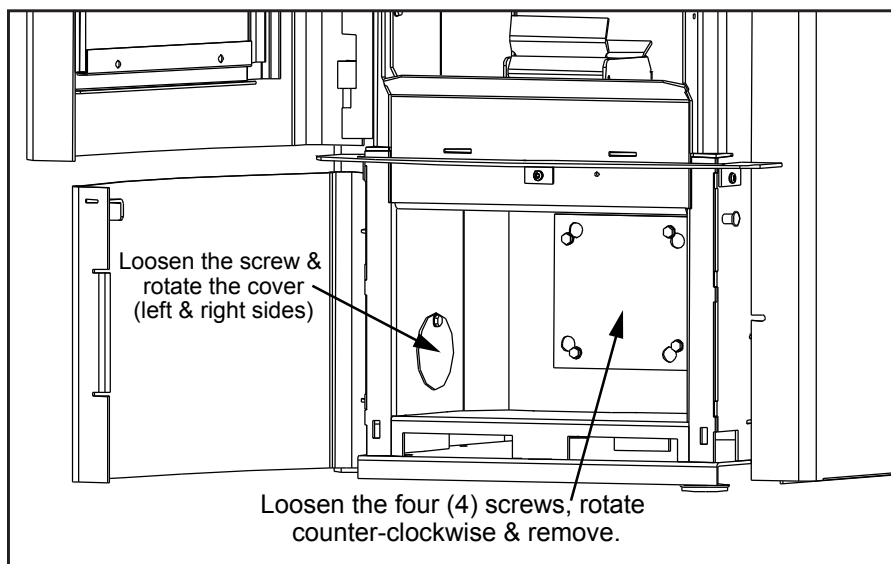

Figure 9: Mini Clean-Out Covers.
- Using a $\frac{5}{16}$ " socket, loosen the six (6) screws in the ash box compartment; four (4) on the back and one (1) on each side (see Figure 9).
- Vacuum out all three (3) chambers.